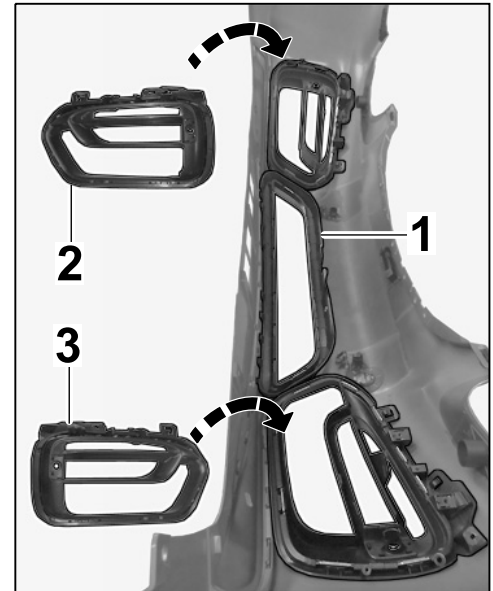

Figure 8
- 4.4 Fit new side air grilles (left/right) into the front apron (⇒ *Workshop Manual '660419 Removing and installing front air grille'*, ⇒ *Figure 8*)